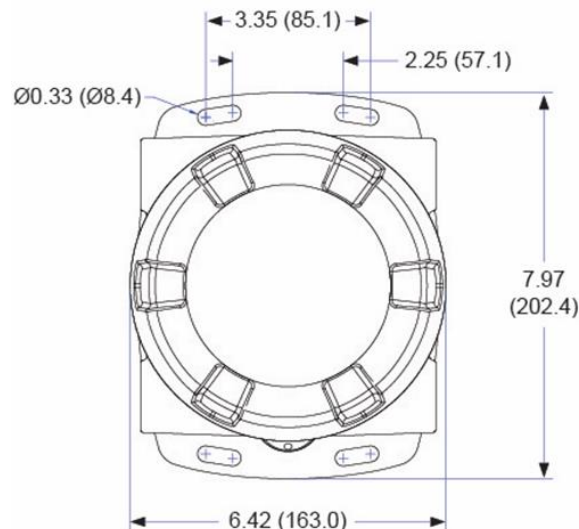
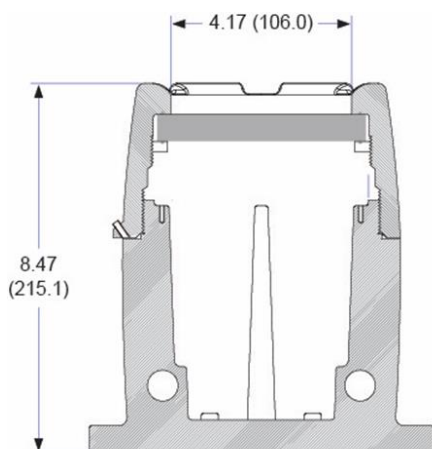

Figure 1. Enclosure Dimensions – Front View
Figure 2. Enclosure Dimensions – Side Cross Section View
The ProtEX-MAX has two slotted mounting flanges that may be used for pipe mounting or wall mounting. Refer to *Figure 1* and *Figure 2* below.
- Prepare a section of wall approximately 7.0" x 8.5" (178 mm x 216 mm) for meter mounting by marking with a pencil the mounting holes (shown in *Figure 1*) on the wall.
- Select the appropriate mounting screws for the mounting surface to be used. The mounting holes diameter is shown on *Figure 1*.